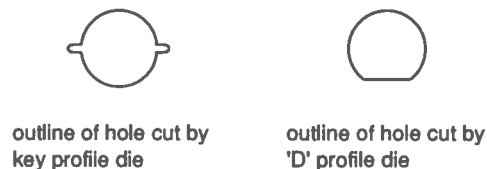

Fig. 2 Die profiles for fuseholders
2. Fuseholders and other round sectioned parts have anti-rotation mechanisms. These must be utilized. For instance some fuseholders are fitted with an anti-rotation spigot which fits into a key profile mounting hole (Fig. 2). Others have a D profile. A suitable punch and die should be used when preparing the mounting hole. These are stocked by RS Components and are, we admit, expensive! Reliance should not be placed on lock nuts solely.